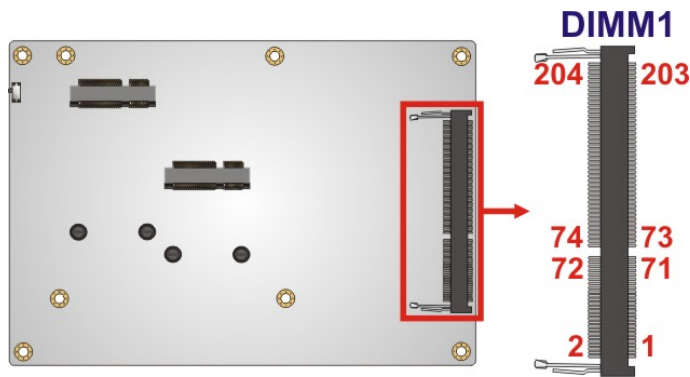

Figure 3-17: Memory Card Slot Location
- CN Location:** See **Figure 3-17**